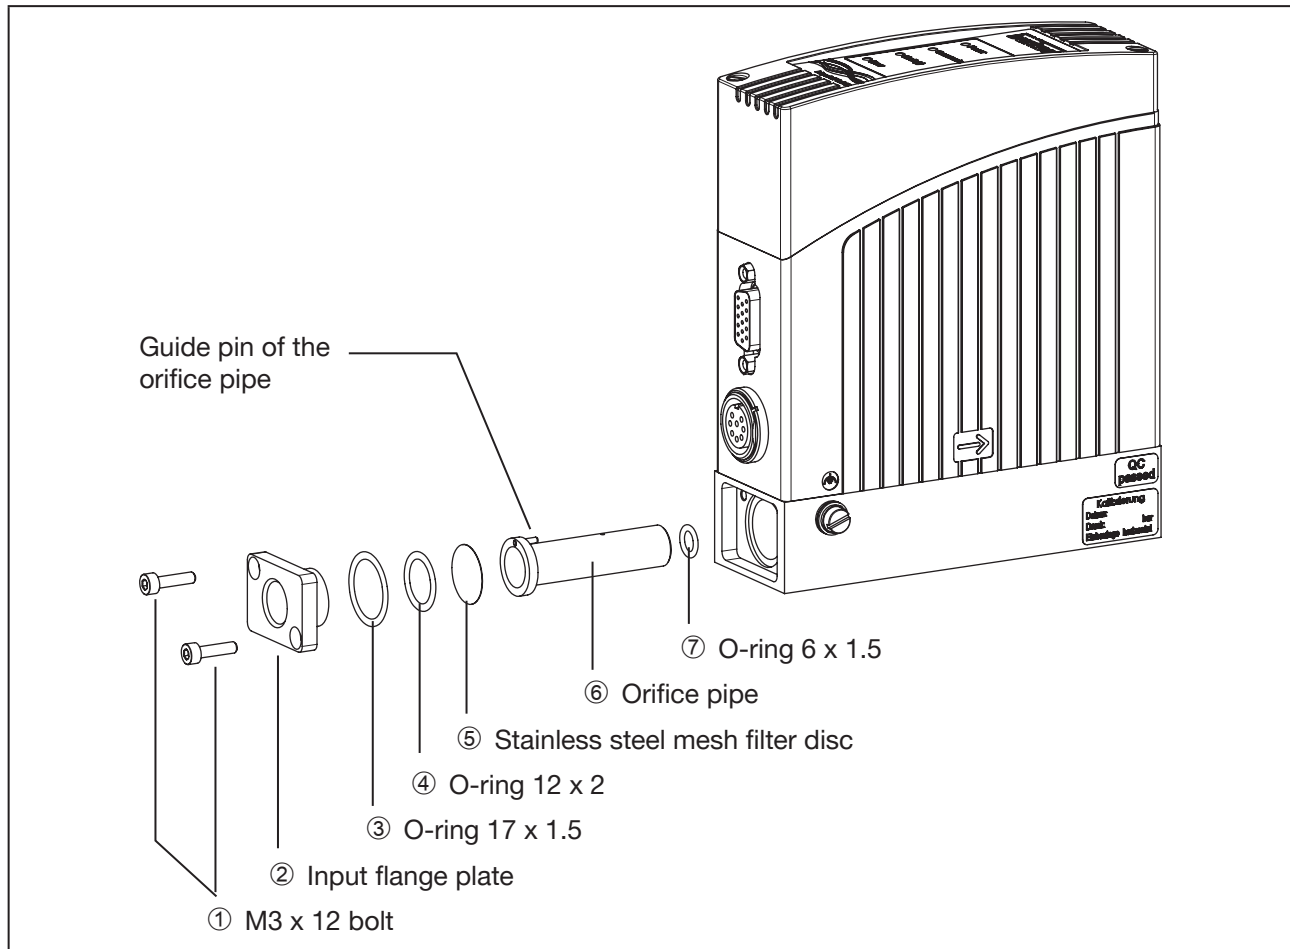

Fig. 11: Maintenance, Cleaning
- To gain access to the stainless steel mesh filter disc, detach the input flange plate ② (see Fig. 11: Maintenance, Cleaning).
- Re-insert parts in the correct sequence and position (see Fig. 11: Maintenance, Cleaning).
- The orifice pipe ⑥ must be inserted in such a way that the guide pin of the pipe is inserted into the corresponding bore in the base block.
- When inserted, the fine mesh of the stainless steel mesh filter disc ⑤ must face the input flange plate ②.